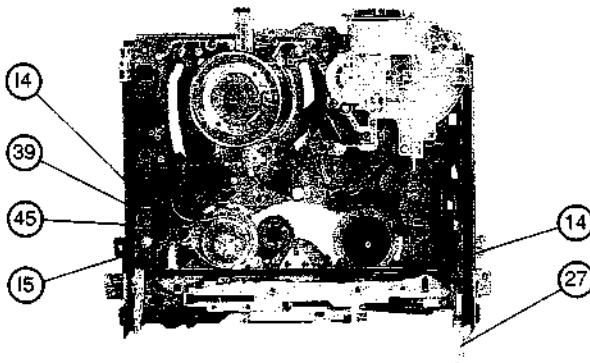

fig. 7
- Den Hebel der Kassettenträgerklappe (27) einsetzen, Abb. 7.
- Position the lever of the cassette holder door as shown in figure 7.
2) AUSTAUSCH DES BANDZUGARMS: (Abb. 7 und 8)
2) REPLACEMENT OF THE TAPE BACK TENSION ARM (fig. 7 and 8)